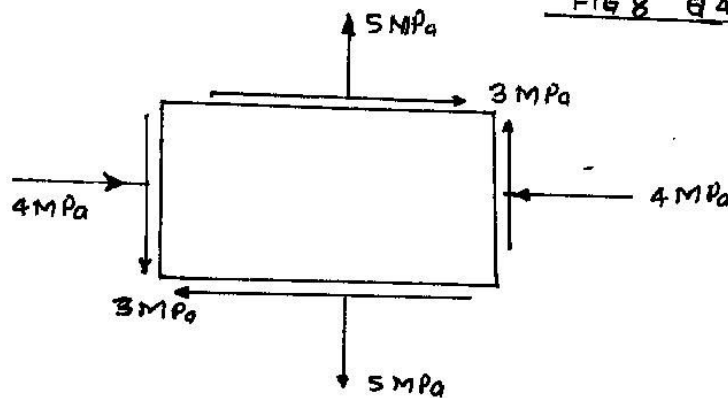

FIG 9 Q.5 (c)
- (c) An element is loaded by tensile stress 5MPa and compressive stress 4MPa in perpendicular directions alongwith shear stress 3MPa as shown in **fig 9**. Calculate normal, tangential and resultant stress on a plane making  $30^0$  angle in anticlockwise direction with the plane carrying tensile stress. **05**